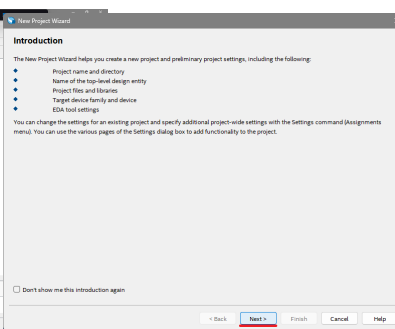

Figure 2: New Project Wizard
2. Click "Next" in the "New Project Wizard" window. (Figure 2)